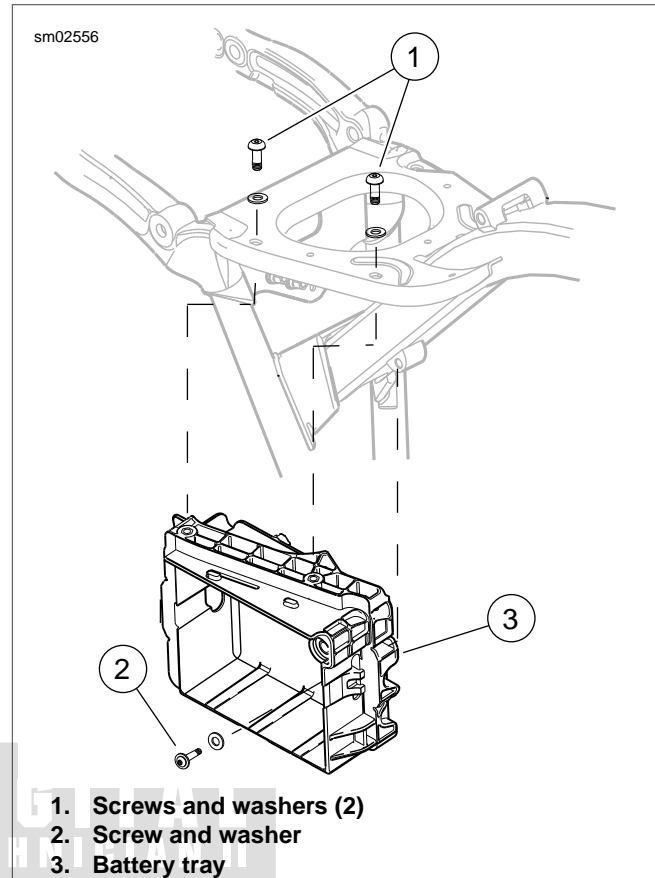

Figure 7-17. Battery Tray
2. See Figure 7-17. Remove two top screws and washers (1).
3. Remove screw and washer (2).
4. Guide battery cables out through holes in rear of battery tray (3) and remove tray.
3. See Figure 7-17. Install screws and washers (1, 2). Tighten screws to 96-120 **in-lbs** (10.8-13.6 Nm).